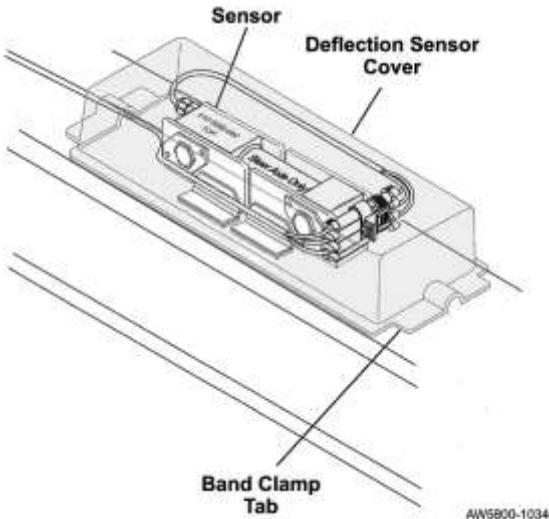

Fig. 12: Placing the Cover
5. Mount the cover over the sensor and the sensor brackets so that the sensor cable is completely under the cover. The bracket band clamps should emerge from the cover's side ports (Fig. 12). The sensor extension cable should emerge from the cover's end port on whichever side you choose to route the cable.